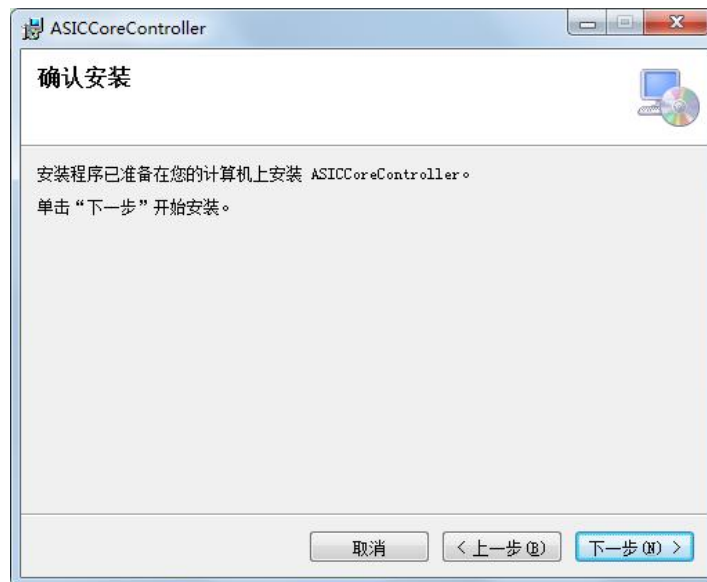

Figure 4-3 Software installation interface 3
3. In the new pop-up window, click the button "Next" to proceed to the next step, as shown in Figure 4-3.